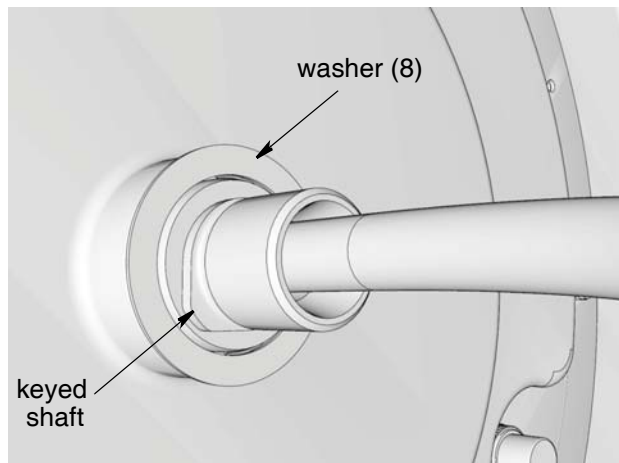

FIG. 12
10. Mount spool assembly into arm and pedestal taking care to ensure keyed shaft aligns with arm and pedestal. Ensure washer is in place as shown in FIG. 12.